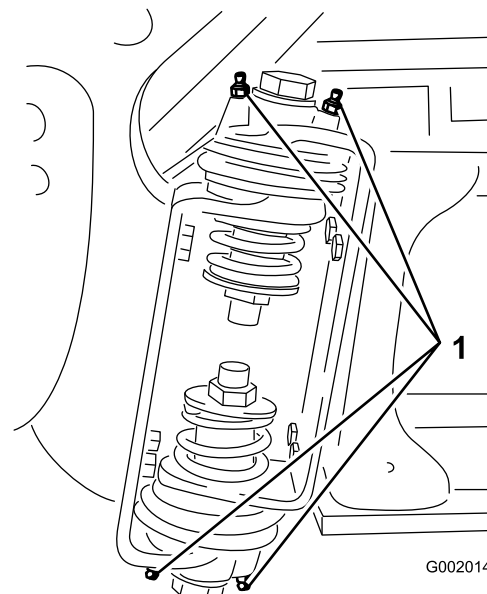

Figure 41
2. Pump grease into the bearing or bushing at each fitting Figure 41.